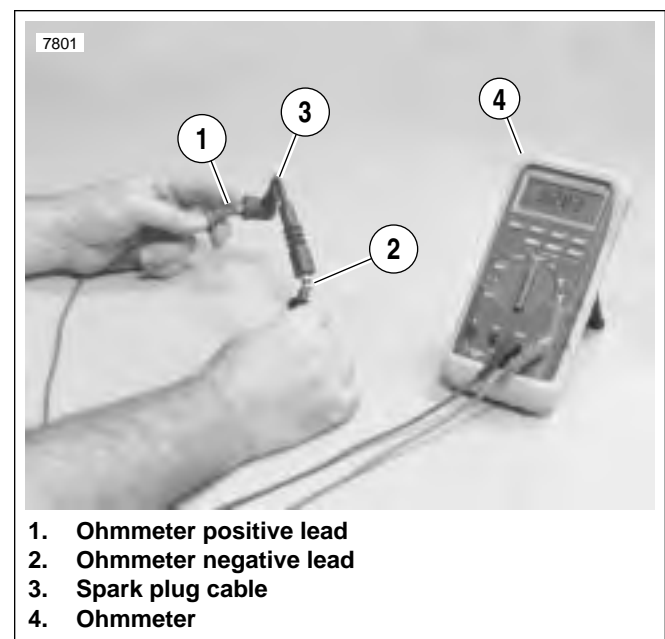

Figure 7-29. Testing Resistance
- See Figure 7-29. Check spark plug cable resistance with an ohmmeter. Replace cables not meeting resistance specifications of 2375-5833 ohms.